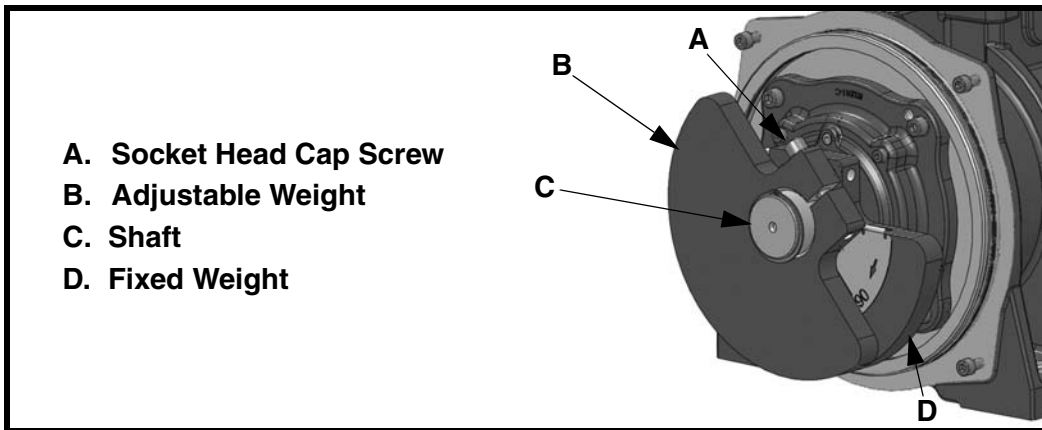

Figure 9. Adjusting Eccentric Weights
3. Loosen socket head cap screw (A, Figure 9) so adjustable weight (B) will rotate around shaft (C).